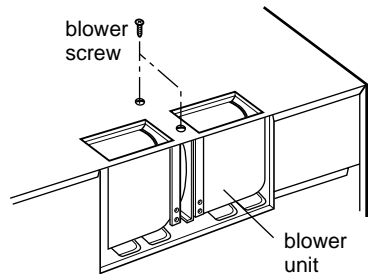

Figure 17
5. Tighten the two blower screws. See Figure 17.